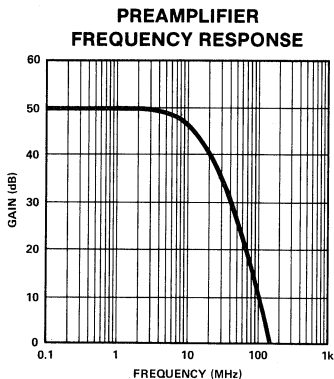

Figure 4
The preamplifier performs two basic functions. The first is to raise the level of the incoming signal to the correct level to trip the comparators. The second is to provide frequency/gain compensation to enhance the signal-to-noise ratio of the incoming signal. The preamp is designed to be operated in a near open-loop condition. A limited amount of feedback is used to control the frequency response. The gain-phase relationship of the preamp (see Figures 4 and 5) implies that the feedback network must have 40dB attenuation or more at 20MHz and above to ensure stability.
3. Large phase-shifts in the preamplifier at high frequencies can cause instability if not compensated for by the feedback network. (See Figures 4 and 5).